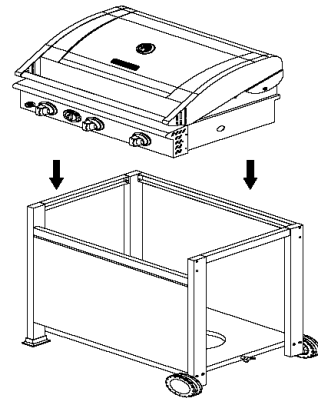

Figure 7
1. Remove grill head unit from carton, then place onto cart from above as shown in diagram (Fig.7) **CAUTION!! Head unit is heavy. To avoid injury, we strongly recommend 2 or more persons for this step.**